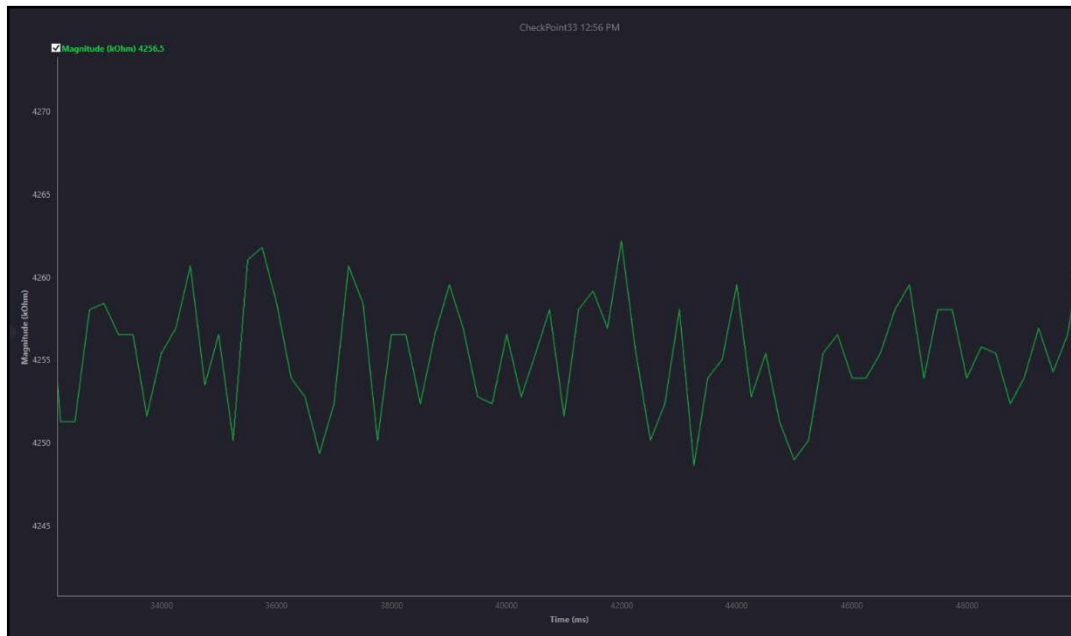

Figure 28. EDA Validation Test Result—4.22 M Ω on Impedance Test Board
11. When the software has finished collecting data, the resulting graph should look similar to the one in Figure 28